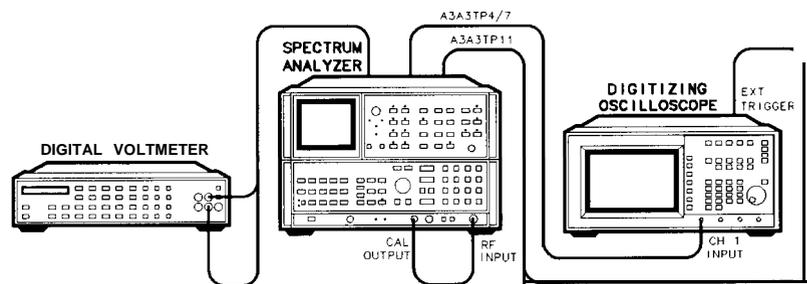

Figure 3-89. Digital Storage Display Adjustments Setup
1. Place instrument upright as shown in Figure 3-89 with top and A3 Digital Storage cover removed.